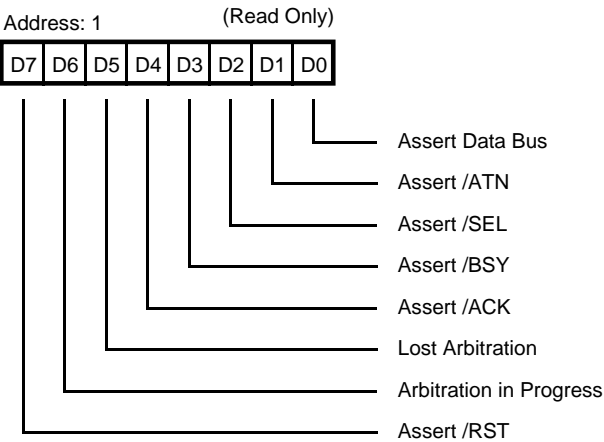

Figure 8. Initiator Command Register (Register Read)
**Initiator Command Register.** *Address 1 (Read/Write).* The Initiator Command Register (Figures 8 and 9) are read and write registers which assert certain SCSI Bus signals, monitors those signals, and monitors the progress of bus arbitration. Many of these bits are significant only when being used as an Initiator; however, most can be used during Target role operation.